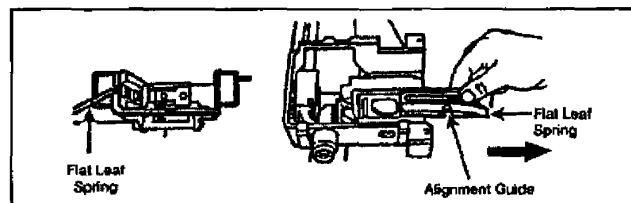

Figure 071-030-0001-10. Removal of the alignment guide assembly
- (1) Hold the top cover straight up to align the end of the cross pin.
- (2) Pull straight out on the pins.
- (3) Lift off the top cover.
- (4) Lift the tray out of the feeder.
g. Remove the alignment guide assembly (figure 071-030-0001-10).